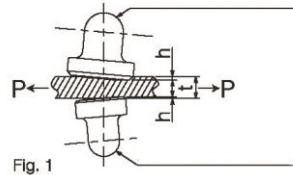

Fig. 1
1. The load-acting points on both the screw cap and the cam are hemispherical (pivot-shaped). Consequently, if the suspension load moves by even a minute amount, the clamp will rotate in synchronism with this motion and tilt in the forward direction. This in turn will cause the teeth to cut into the suspension load with a large force. (Refer to Fig. 1.)
6. A hemispherical W cam system is employed, causing the clamp to cut into the load from both sides. (Refer to Fig. 1.)
Refer to Fig. 1 and item 2 of "Precautions for use."